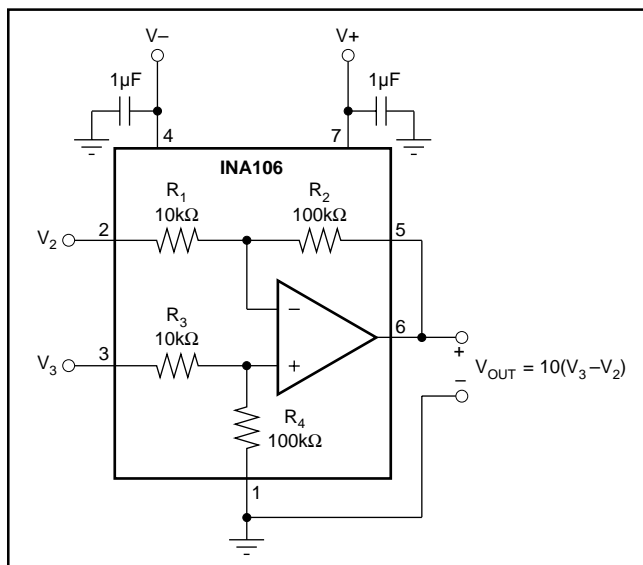

FIGURE 1. Basic Power Supply and Signal Connections.
NOTES: (1) Connected as difference amplifier (see Figure 1). (2) Nonlinearity is the maximum peak deviation from the best-fit straight line as a percent of full-scale peak-to-peak output. (3) With zero source impedance (see "Maintaining CMR" section). (4) Includes effects of amplifiers's input bias and offset currents. (5) Includes effect of amplifier's input current noise and thermal noise contribution of resistor network.
Figure 1 shows the basic connections required for operation of the INA106. Power supply bypass capacitors should be connected close to the device pins as shown.
Referring to Figure 1, the CMR depends upon the match of the internal R_4/R_3 ratio to the R_1/R_2 ratio. A CMR of 106dB requires resistor matching of 0.005%. To maintain high CMR over temperature, the resistor TCR tracking must be better than 2ppm/°C. These accuracies are difficult and expensive to reliably achieve with discrete components.